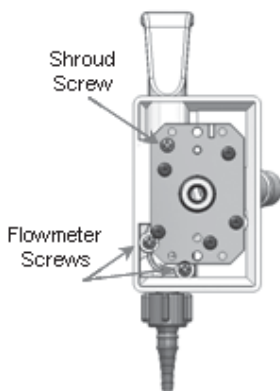
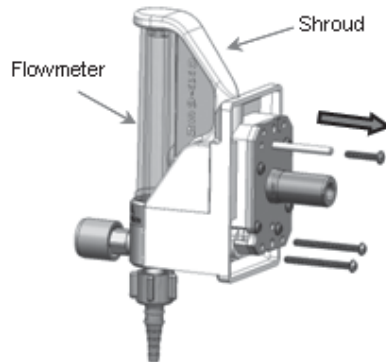

Figure 1
Figure 2
2. Using a Phillips Screwdriver remove Shroud Screw and the Flowmeter Screws (see Figure 2) (see Figure 1 for Screw locations)